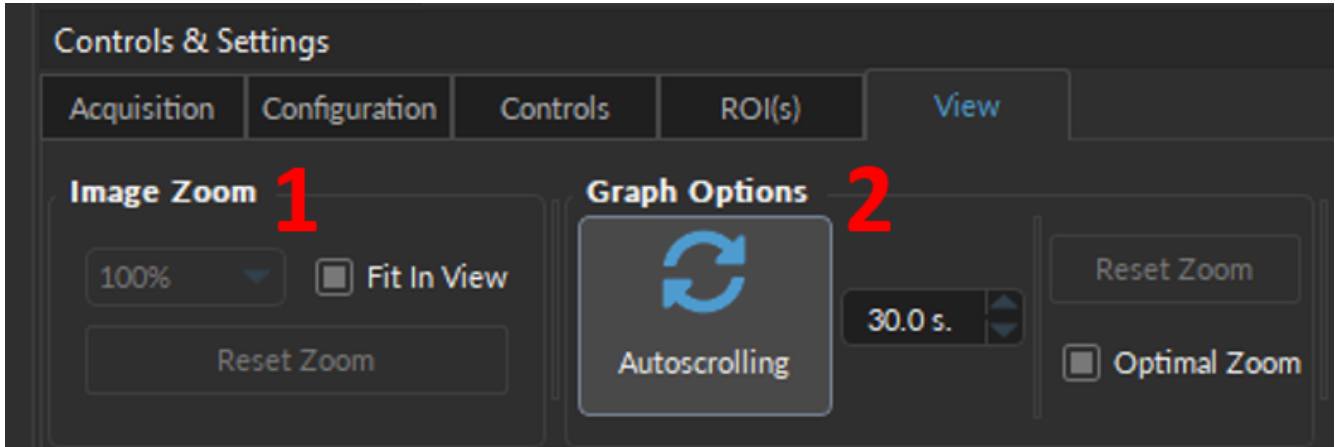

Figure 15.15: View Tab
The **View Tab** (Fig. 15.15) is used to modify the presentation of graphs in the **Acquisition view**.
1. The **Image Zoom** (Fig. 15.15, 1) includes the following:
2. The **Graph Options** (Fig. 15.15, 2) includes the following parameters which modify the **Graph View**: